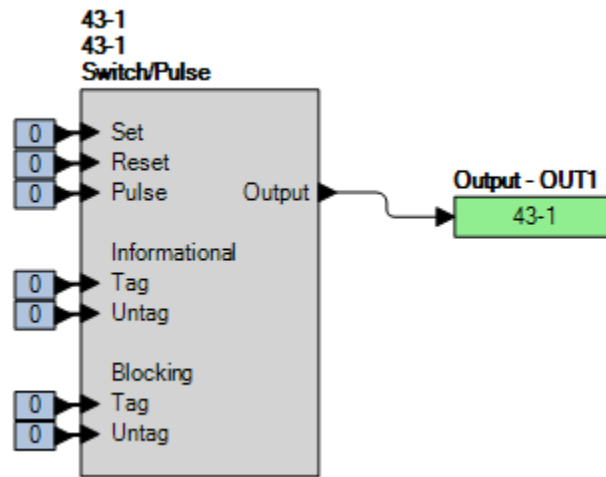

Figure 72-1. BESTlogicPlus Settings
Step 2: Use BESTCOMSP $\iota$  to configure the BESTlogicPlus programmable logic shown in Figure 72-1.